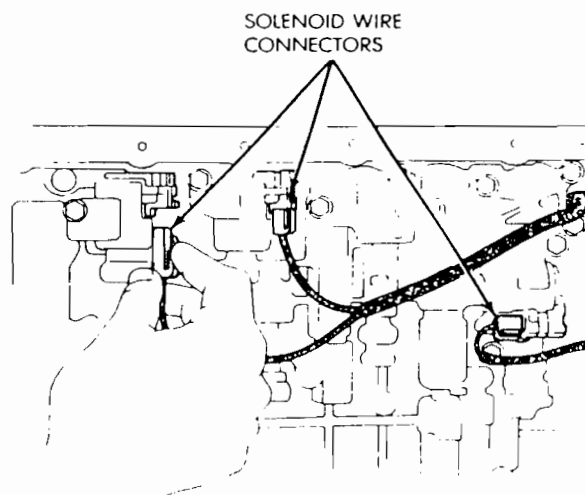

Fig. 7 Solenoid Wire Connectors
- (4) Disconnect solenoid wire connector (Fig. 7).
- (5) If all solenoids are being removed, mark or tag wires for assembly reference before disconnecting them.
(1) Remove oil pan and oil screen. Refer to Solenoid Removal procedure.
(2) Disconnect solenoid wire connectors (Fig. 7).